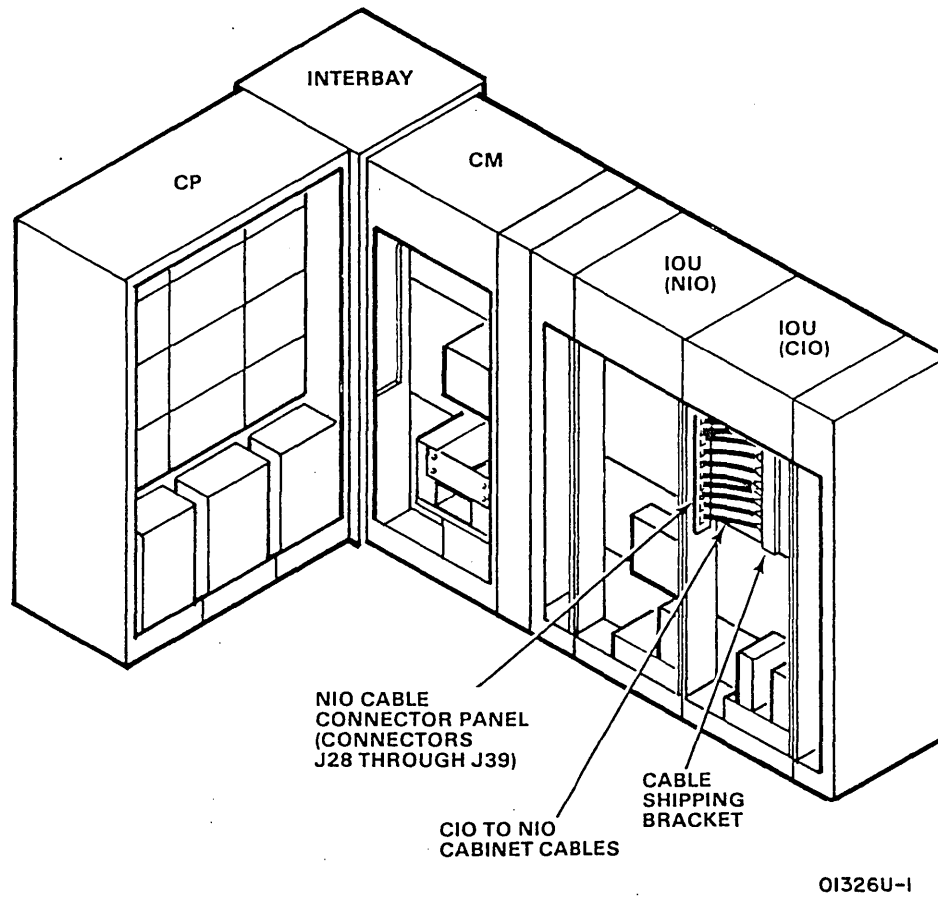

Figure 4-11. IOU CIO Cable Connections
- ___ 2. Use diagonal cutter to cut retaining strap from cable shipping bracket and cable J28 at rear of CIO cabinet (figure 4-11).